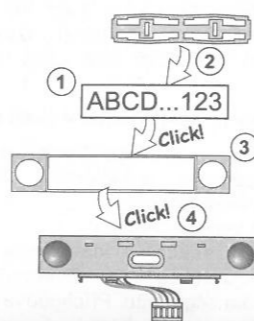

Figure 3: Insertion of a label into a control segment
- Connect the BUS cable to the bus terminals (6).
- Connect the segment wires to the internal connector of the module (5).
- When the device is switched on, the yellow backlit activation button (3) starts flashing repeatedly to indicate that the module has not been enrolled into the system.
- Press the backlit activation button (3) – the access module is thus enrolled and the yellow LED indicator goes off.
- When you have completed the installation, insert descriptive labels onto the segment transparent covers and close them, see figure 3. Label printing is a part of the F-Link software (**Devices** window, at the module position – **Internal settings**).